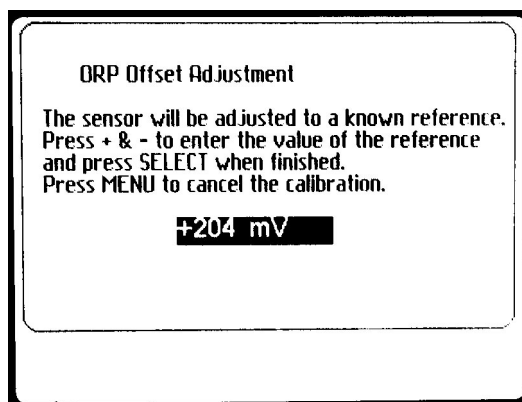

Figure 42 - ORP Offset Adjustment
4. From the ORP OFFSET ADJUSTMENT screen (Figure 42), use the + or – keys to change the ORP value to agree with the desired buffer value. Press SELECT when done.